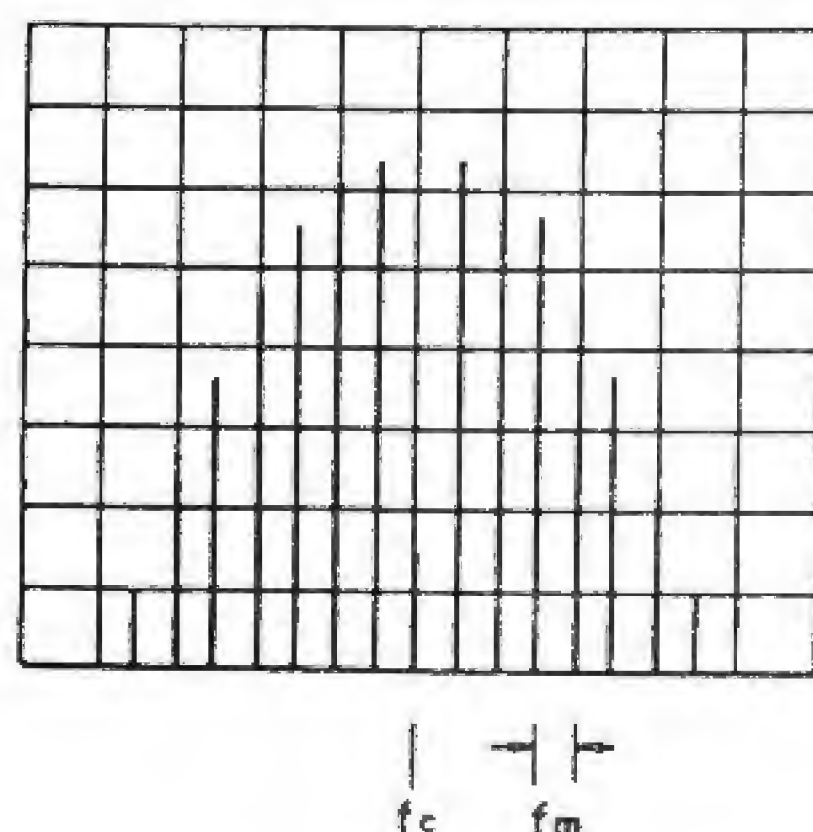

Fig. 3-22 FM Wave Spectrum
(4) FM wave measurement
The carrier frequency f_c , modulation frequency f_m , and the level of each sideband spectrum can be measured, when displayed as shown in Fig. 3-22 by the display expansion measurement procedure of item (1).